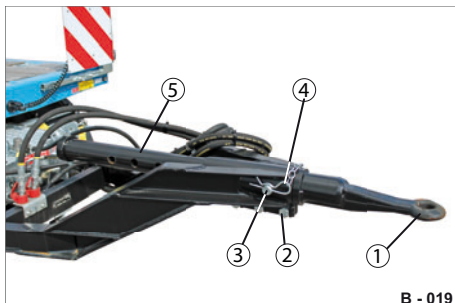

Fig. 32 Drawbar - variety 3
- ▶ Remove the spring pin (Fig. 32/4) from the socket pin (Fig. 32/3).
- ▶ Disassemble the 4x screw connections (Fig. 32/2).